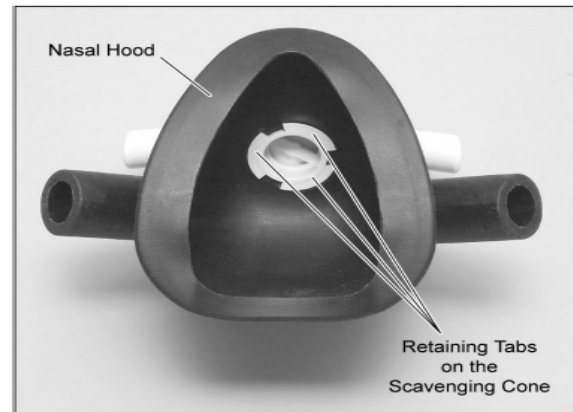

Figure 6. Correctly Seating the Cone in the Hood
7. Gently stretch the hole in the hood over the retaining tabs on the scavenging cone. When the cone is seated in the nasal hood properly, three segments of the cone base are visible inside the nasal hood. See Figure 6.
6. Gently stretch the hole in the hood over the retaining tabs on the scavenging cone. When the cone is seated in the nasal hood properly, three segments of the cone base are visible inside the nasal hood. (see Figure 6).